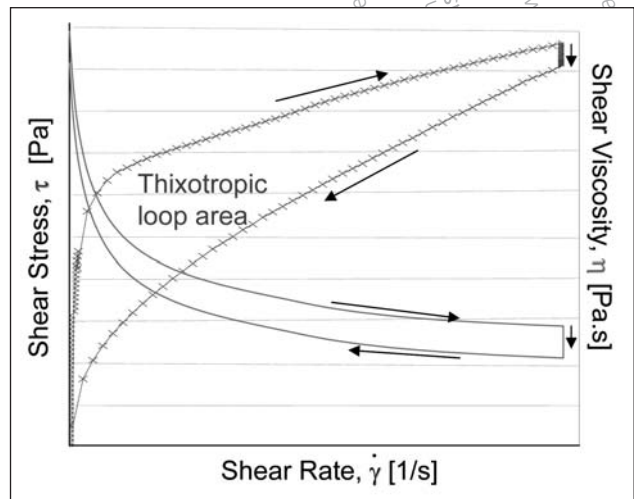

Figure 3: Thixotropy loop.
curve). The rate of change of shear rate for the up- and down-curves and the time at maximum shear rate are user defined and the number of data points is usually high so that a continuous curve is generated. Plotting the results as shear rate vs. shear stress or viscosity (Figure 3), if the up-curve lies above the down-curve and the measurement can be repeated after some rest time, then the material is thixotropic.
- The reaction of the material to the imposed shear rate (reaction = shear stress) or shear stress (reaction = shear rate) is measured and the viscosity calculated according to equation (1).
- The result of the experiment is a thixotropy loop, as illustrated in Figure 3.
- The thixotropy of different materials can be compared by comparing the area bounded by the thixotropy loop, as illustrated in Figure 3.